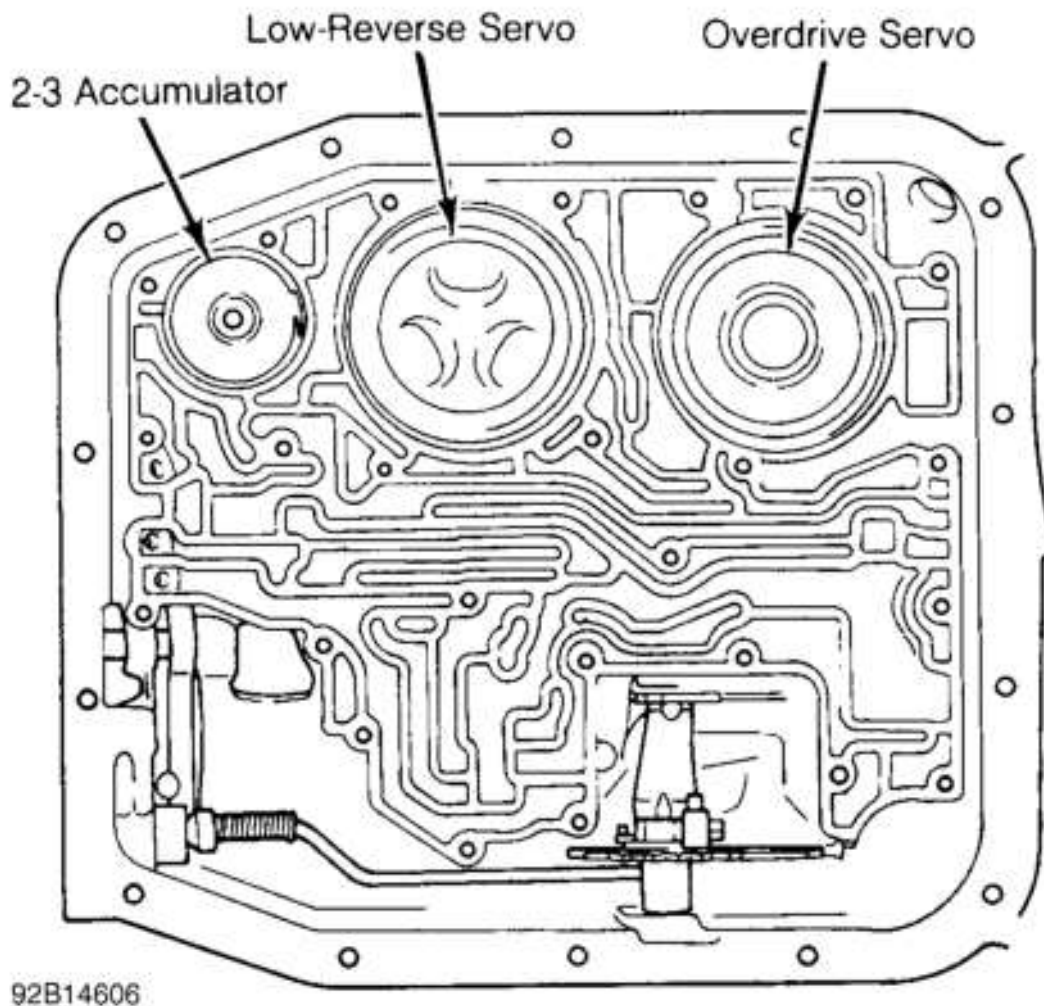

Fig. 2: Identifying Accumulator & Servo Locations
1. Remove valve body. See VALVE BODY ASSEMBLY. Hold overdrive band against drum with screwdriver to prevent band movement when servo is removed. Depress overdrive servo piston cover and remove retaining snap ring. See Fig. 2.
1. Remove valve body, see **VALVE BODY ASSEMBLY** . Depress low-reverse servo piston cover and remove retaining snap ring and cover. See **Fig. 2** .
Remove valve body. See **VALVE BODY ASSEMBLY** . Depress 2-3 accumulator piston cover. Remove retaining snap ring, cover, and spring. See **Fig. 2** . Remove accumulator piston. Remove accumulator seals from piston.